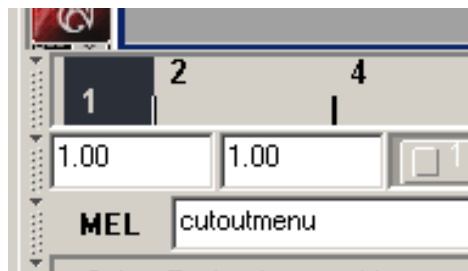

Figure 1.3: You can start cutouts graphical user interface in the mel-commandline.
9. As an alternative you can type **cutoutmenu -l 1** on the mel-commandline. (See fig. 1.3)